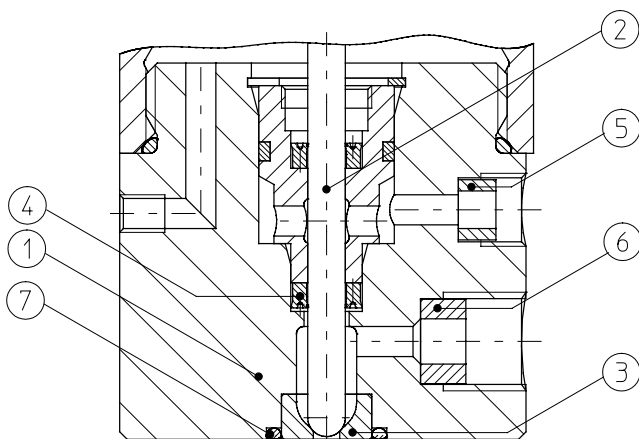

Fig. 6
- The fluid connections in the valve housing (Fig. 6) are sealed from the inside.